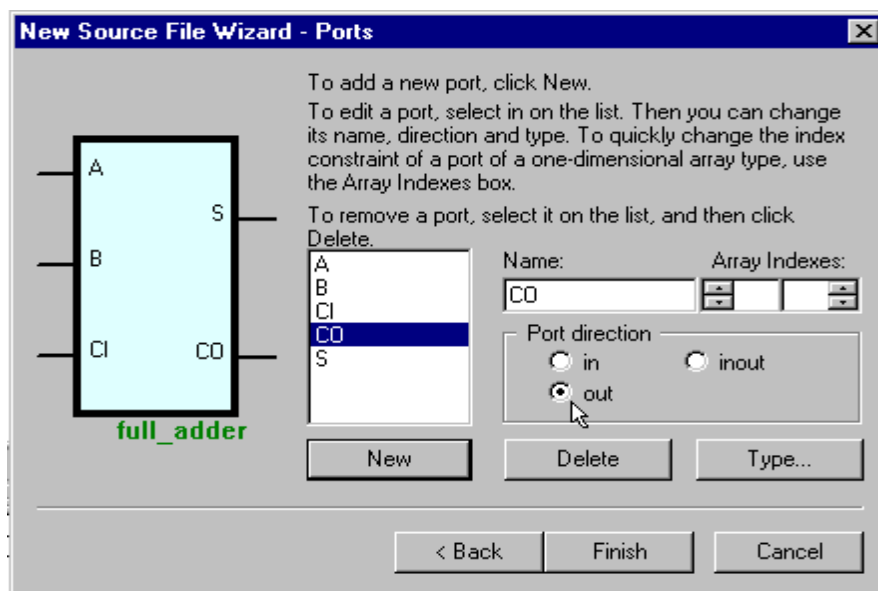

Figure 11
9. We will only be using 1-bit ports, so ignore the “Array Indexes” fields for now. Your screen should look like Figure 11. If so, then click the Finish button.